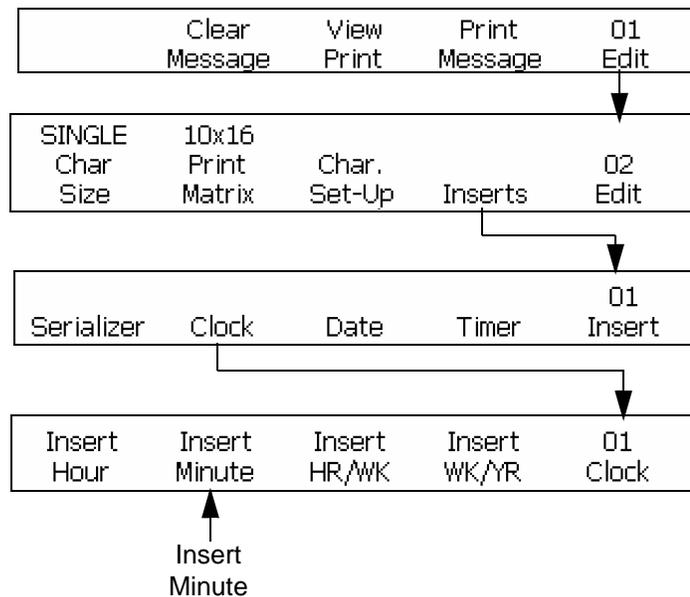

Figure 6-26: Accessing Frame <01 Clock>
- 1 Begin in the Frame <01 Clock>. Refer to Figure 6-26.